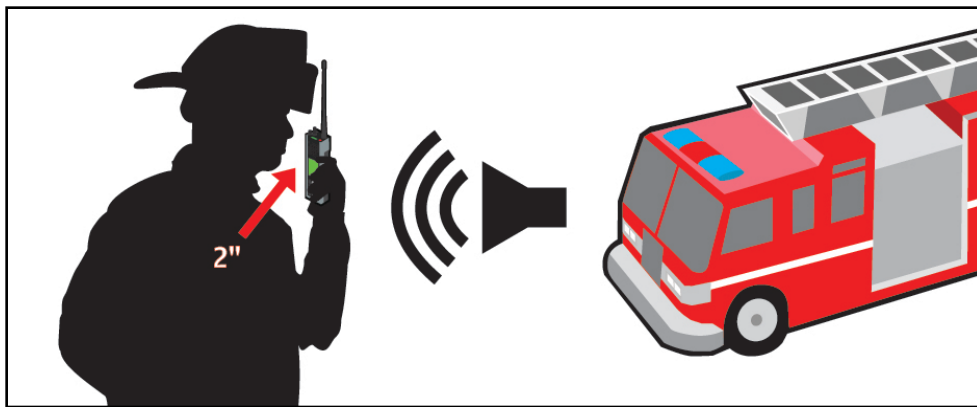

Figure 4-4: Using the Noise Cancellation Feature
- Talk within two (2) inches of primary microphone (see Figure 4-4).
- If possible, face the noise source when talking into the radio (see Figure 4-4).